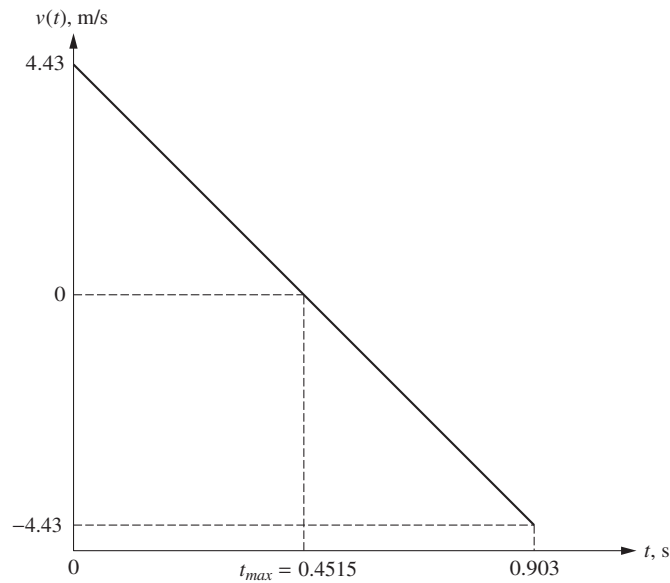

Figure 8.6 The velocity profile of the ball thrown upward.
- (b) **What is the velocity at $y = y_{max}$?** Since the slope of the height at $t = t_{max}$ is zero, the velocity at $y = y_{max}$ is zero. The plot of the velocity, $v(t) = 4.43 - 9.81t$ for times $t = 0$ to $t = 0.903$ s, is shown in Fig. 8.6. It can be seen that the velocity is maximum at $t = 0$ s (initial velocity = 4.43 m/s), reduces to 0 at $t = 0.4515$ s ($t = t_{max}$), and reaches a minimum value (-4.43 m/s) at $t = 0.903$ s.